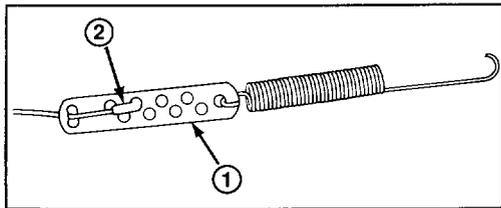

Figure 10
3. ADJUST CABLE (Fig. 10)—Unhook spring end from the bottom hole in control bar bracket. Slide spring cover off cable to expose cable adjuster. Unhook Z fitting from cable adjuster and reposition Z fitting in a higher or lower hole on adjuster to obtain proper gap of 1/16"–1/8". Reinstall spring cover over cable adjuster. Rehook spring onto bottom hole of control bar bracket.